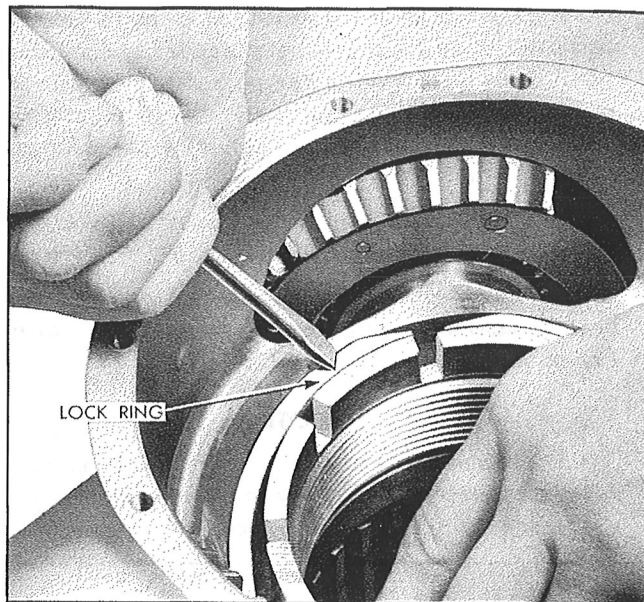

Figure 103—Installation of Shaft Nut Locking Ring
*Step 4.*—Press the propeller shaft nut snap ring into its groove in the propeller hub bore, as shown in Figure 103.